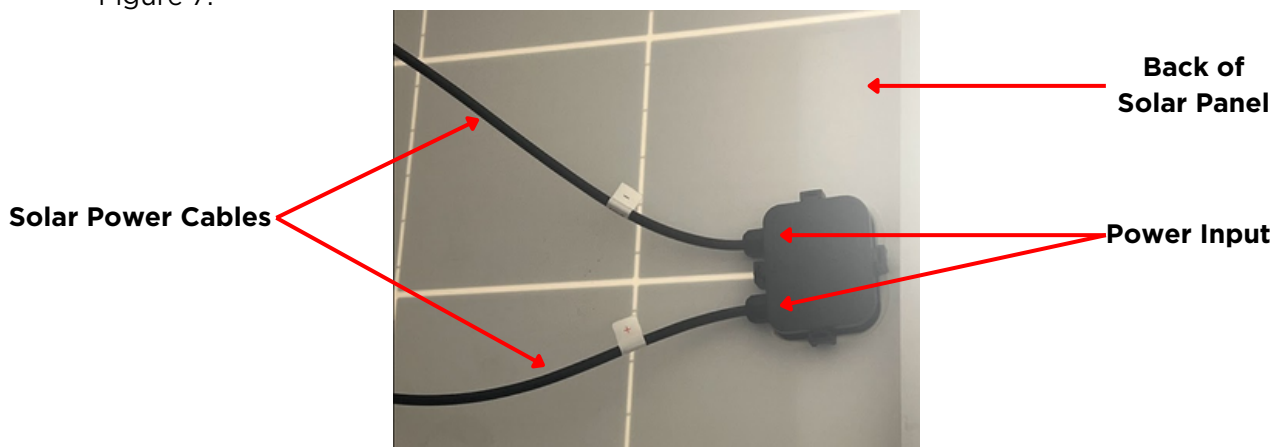

Figure 7
- **Connect power cables to solar panel** - Connect the corresponding positive & negative power cables to the inputs located on the back side of the solar panel, as shown in Figure 7.